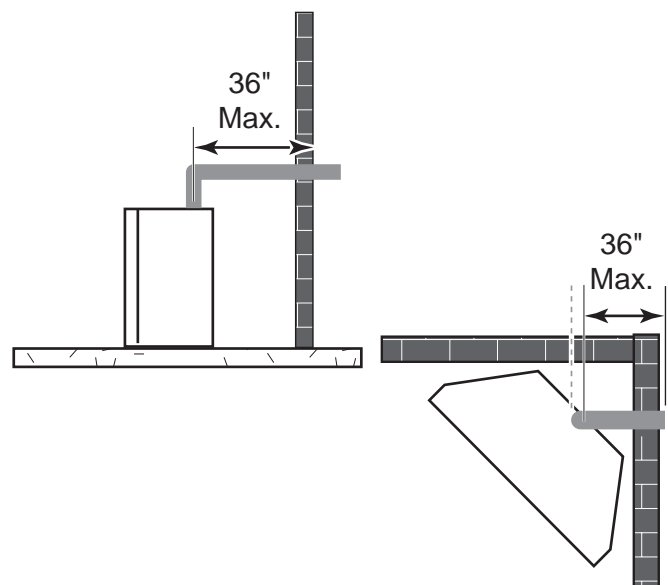

Figure 22 - Maximum Horizontal Run with No Rise
- If a 90° elbow is fitted directly on top of the fireplace flange the maximum horizontal vent run before the termination or a vertical rise is 36" (914 mm). See Figure 22.